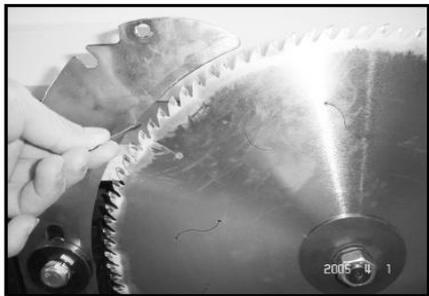

Fig. 45
6. Position the riving knife about 3mm or 1/8" away from the nearest carbide tooth on the main blade. (Fig. 45)